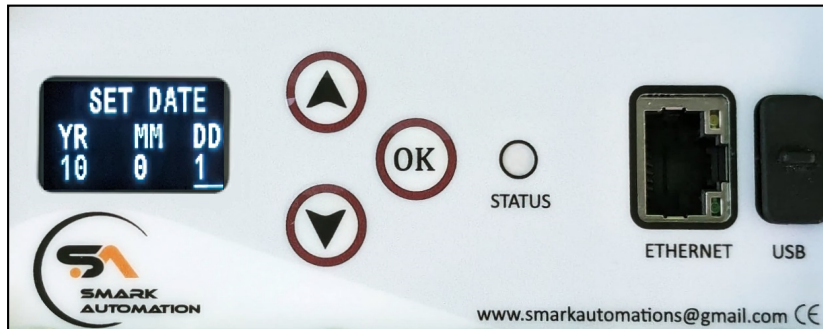

Figure 18: Configuring Date
- **Set date:** User will then be prompted to set the date (date, month, year) as shown in Fig 18. Follow the same procedure as did for setting the time.